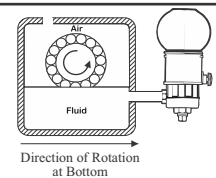

Fig. 1
1. Prior to installing the Opto-Matic Oiler, shaft rotation direction must be determined, typically indicated by an arrow on the casting of the equipment. Install oiler on the side of the equipment facing the direction of shaft rotation to prevent misfeeding of the Opto-Matic Oiler (Fig 1).